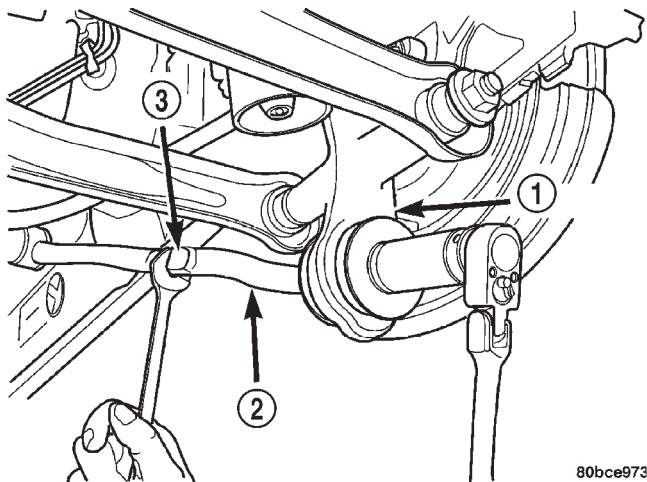
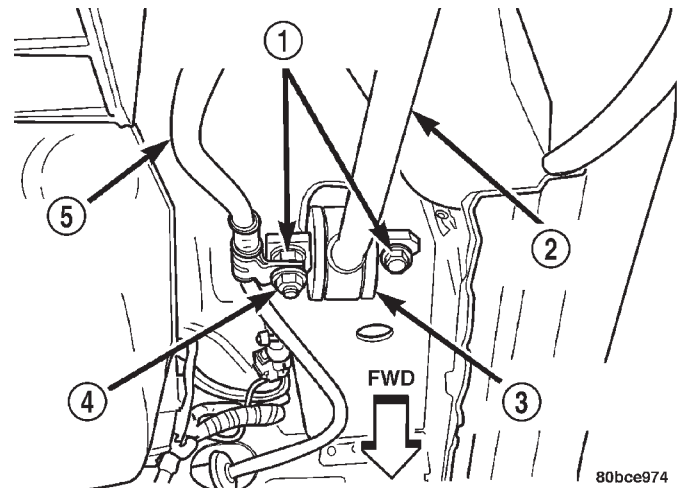

Fig. 14 Tension Strut Nut Removal/Installation
Fig. 15 Tension Strut Mounting At Frame
(1) Raise the vehicle. Refer to **HOISTING** in the **LUBRICATION AND MAINTENANCE** group for the proper lifting procedure.
(2) Remove the rear wheel and tire assembly from the vehicle.
(3) Disconnect the tension strut from the knuckle. To do this, first hold the tension strut from turning by using a wrench on the flat on the tension strut and then remove the nut from the rear of the tension strut (Fig. 14). Next, remove the tension strut retainer, then the rear tension strut bayonet bushing from the tension strut.
(4) Remove the nut attaching the parking brake cable to the stud on the inboard tension strut mounting bolt at the frame (Fig. 15). Remove the parking brake cable from the stud.
(5) Remove the two mounting bolts holding the tension bolts to the frame, then remove the tension strut from the vehicle.
(1) Install the forward retainer and a bayonet bushing on the tension strut trailing end. Be sure the stepped area of the bushing is installed to face the knuckle.
(2) To install the knuckle on the tension, first stick the trailing end through the hole in the lower end of the knuckle, seating the bayonet bushing squarely against the hole. Next, raise the end of the tension strut with the spool bushing into its mounting position on the frame (Fig. 15). Install the mounting bolts securing the tension strut to the frame. Remember, the mounting bolt with the stud on the head is installed on the inboard side.
(3) Tighten the two mounting bolts at the frame to a torque of 95 N·m (70 ft. lbs.).
(4) Place the parking brake cable routing bracket on the stud of the inboard mounting bolt and install the nut securing it in place (Fig. 15). Tighten the nut to a torque of 28 N·m (250 in. lbs.).
(5) Install the rear bayonet bushing on the tension strut. Be sure the stepped area of the bushing is squarely seated into the hole in the knuckle.
(6) Install the rear tension strut retainer, then the nut. To completely install the nut, place a wrench on the flat formed into the tension strut and tighten the nut (Fig. 14). Tighten the nut to a torque of 95 N·m (70 ft. lbs.).
(7) Install the tire and wheel assembly. Tighten the wheel mounting nuts in proper sequence until all